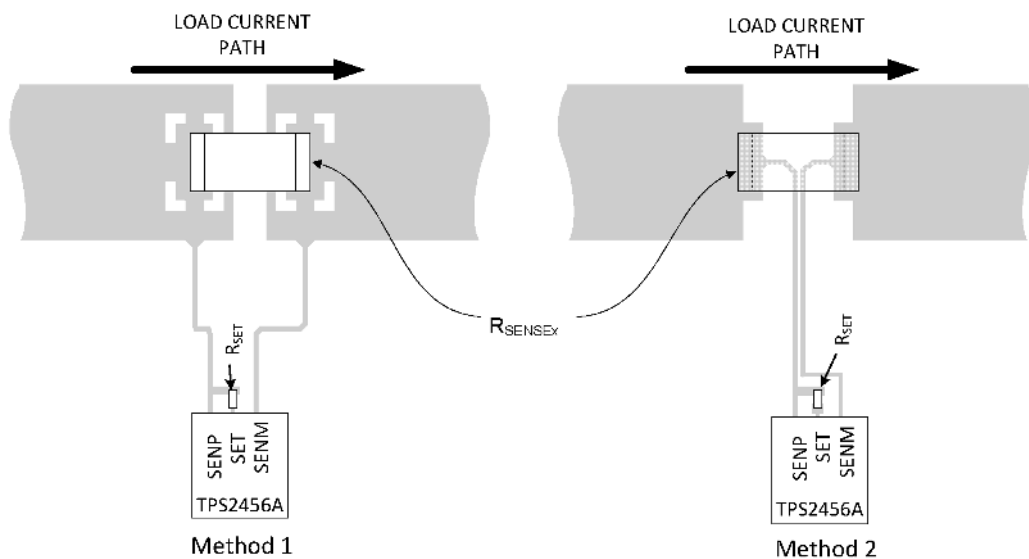

Figure 25. Recommended R_{SENSE} Layout
2. SENMx and SENPx runs must be short and run side-by-side to maximize common mode rejection. Kelvin connections should be used at the points of contact with R_{SENSEx} . (See Figure 25)